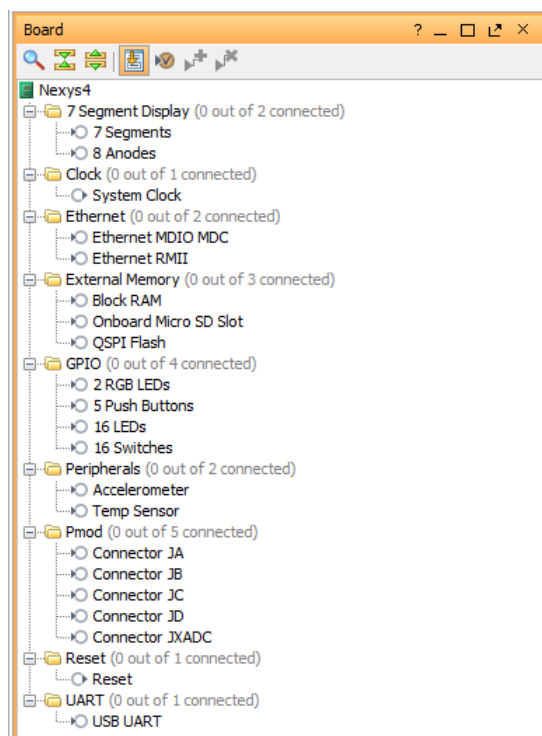

Figure 8: Using the Board Part Interfaces
1. Click the **Board** tab. You can see as in Figure 8 that there are several components listed in that tab. These components are present on the Nexys-4 board. They are listed under different categories in the Board window.